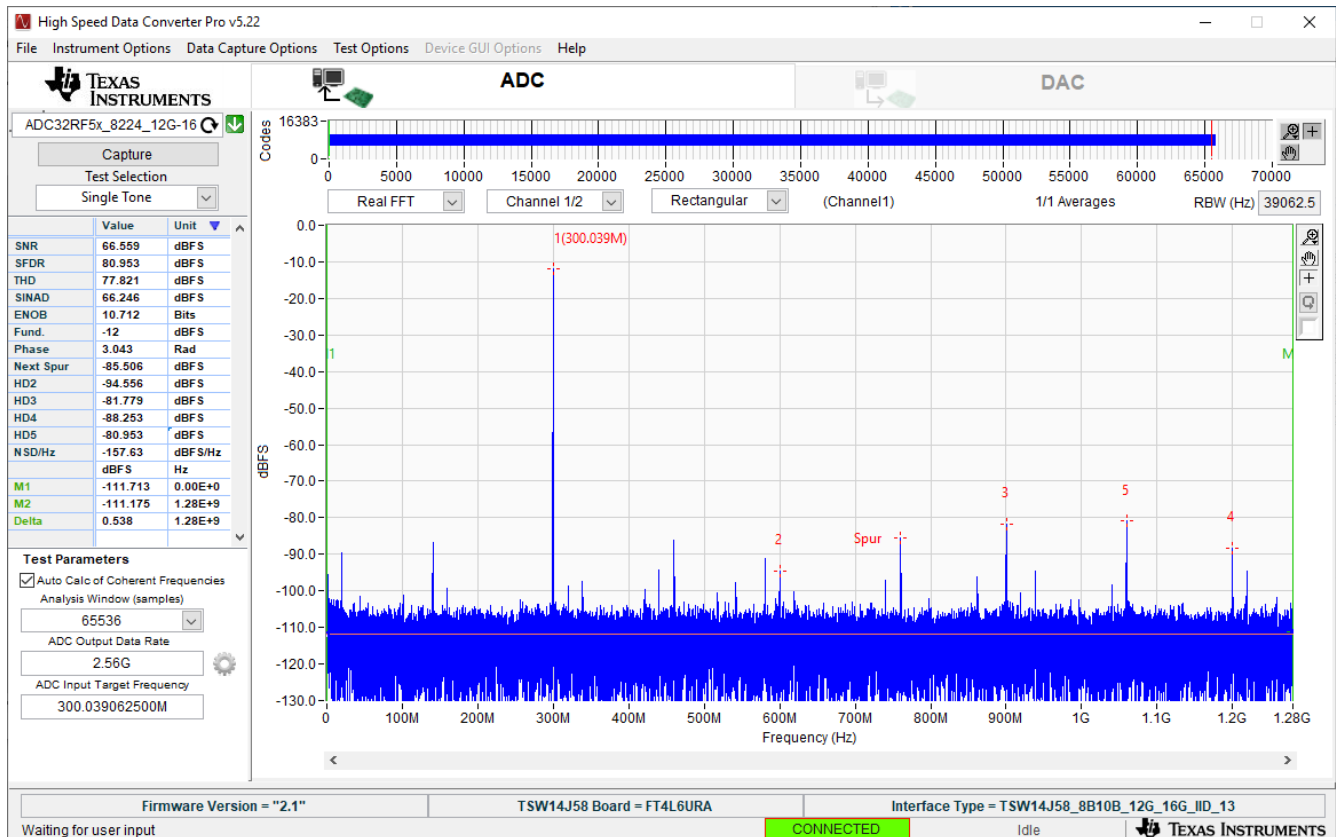

Figure 3-5. 300.039MHz, bypass mode, 2x averaging, dither off
5. In HSDC Pro, press the *Capture* button. A screen appears, similar to Figure 3-5.